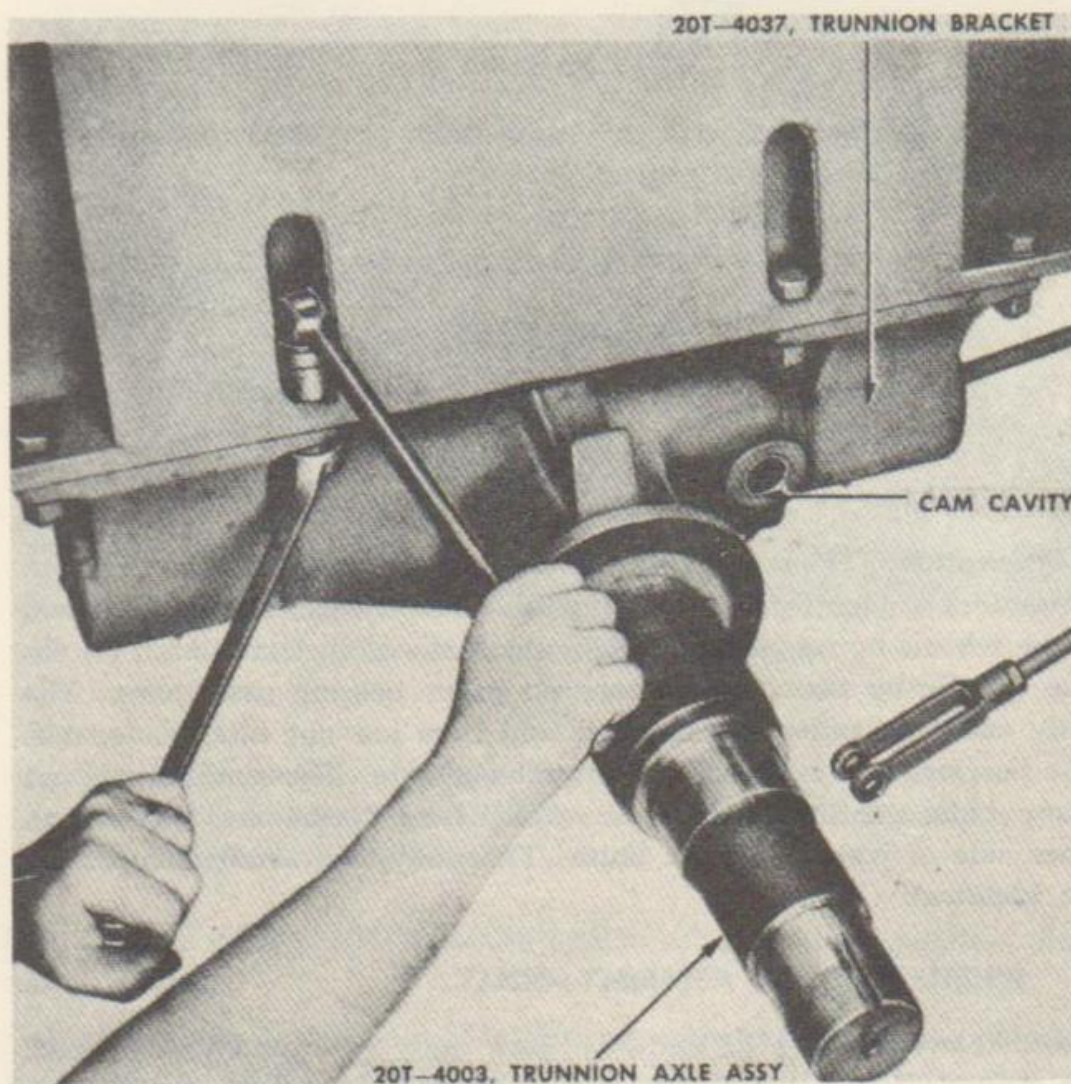

FIGURE 50. REMOVING TRUNNION AXLE
b. Removal. (fig. 50)—Remove outer wheel and tire assembly as one unit (para. 74). Remove inner wheel and drum assembly (para. 76). Remove brake assembly (para. 58 a.). Place axle nut on axle spindle to prevent damaging spindle threads. Place jack under center of trunnion axle. Remove eight bolts, nuts and lock washers from trunnion bracket. With two men steadying the trunnion axle on the jack, lower jack and pull off trunnion brackets. Continue lowering the jack and lift trunnion axle to ground.